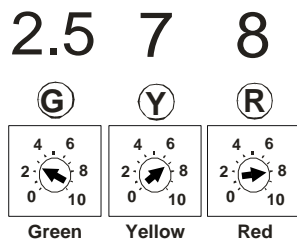
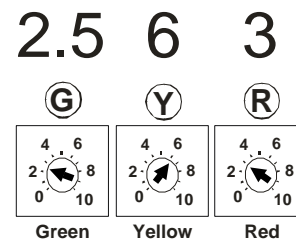

FIGURE 4
FIGURE 5
6. Remove the door from the Fi2000 module to expose the LED's. **NOTE:** The Fi2000 base pot settings come preset from the factory for the V-Star 950 with aftermarket air cleaner and full exhaust installed, shown in Figure 4. If your motorcycle has a slip-on muffler installed change the pot settings to those shown in Figure 5. Verify the wire connections by, (1), turning the ignition on while watching the 3 LED's. They will all light up for a few seconds, and then go off. This is correct. If there are no lights visible, make sure the side stand is up, bike is in neutral, clutch is in and handlebar engine switch is set to run. If there are still no lights visible, re-check that all connectors are fully engaged and the ground wire is connected correctly. (2), after achieving a steady light from all three LED's, start the motorcycle; the green light should now be the only LED on. If all three LED's are still on after start up, verify the injector connectors are correctly attached. Reattach the access door when finished and install the remaining components. **NOTE:** Make sure the ignition is turned off before changing any connections.
Your Cobra® Fi2000 fuel injection module has been tested and preset for best function and rideability on a motorcycle with aftermarket aircleaner and Cobra exhaust. The Fi2000 does however, have 3 important adjustments that allow you to tune the module for optimum performance, especially if you have performed other changes to your motorcycle. These adjustments also allow you to resolve drivability issues if our stock settings are not exactly right for your bike. Make sure your motorcycle is up to normal operating temperature (15 minutes of riding should be sufficient) before making any adjustments. Remove the door exposing the pots shown in Figure 4 or 5 depending on configuration.